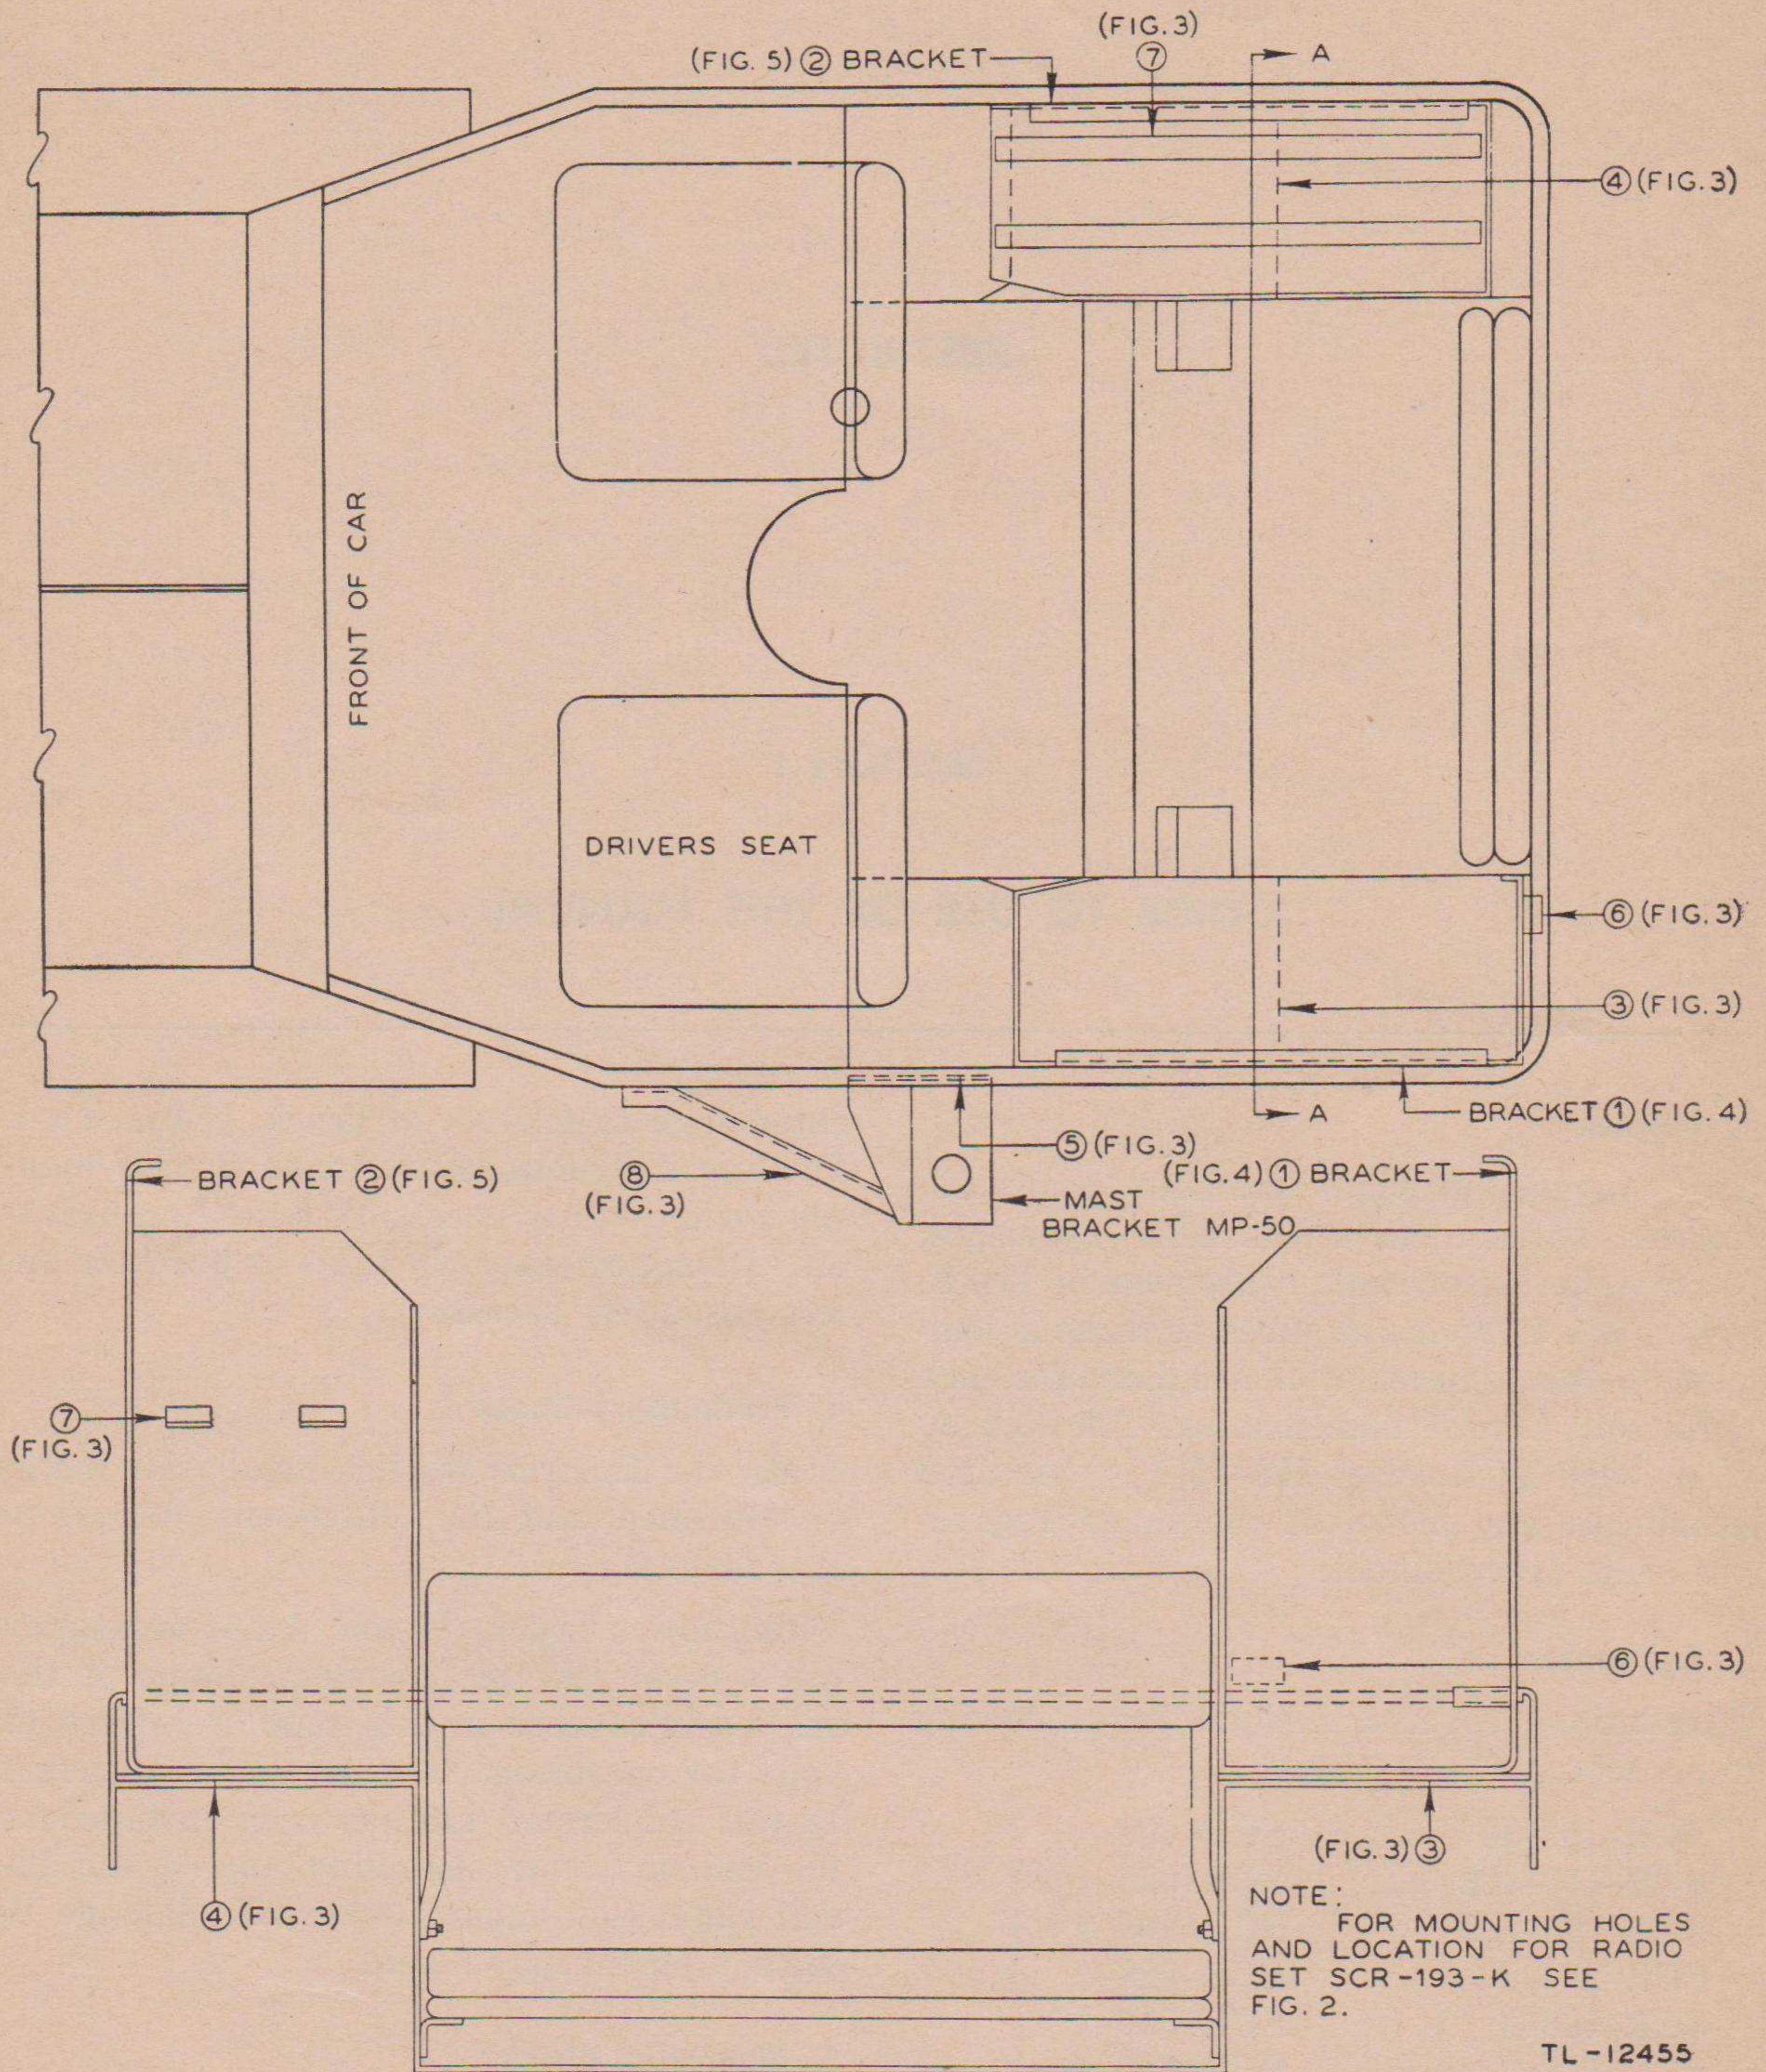

Figure 1. Installation of brackets for Radio Set SCR-193-K in Truck, 1/4-ton, 4x4.
SCR-193-K SEE FIG. 1.
b. PROCEDURE. Components of the radio set should be installed as shown in figures 6 and 12 and as directed below. Figure 2 shows mounting holes and location for the equipment. Figure 1 shows the installation of the brackets for the radio sets. Bracket details are shown in figures 3, 4, and 5.
Refer to figures 2 and 12. If the holes for the brackets have not already been drilled, drill them as shown in view D-D, figure 12. Fasten the brackets on the outside, and the reinforcing plate for the mast base on the inside of the vehicle, as shown in figure 1, with the hardware provided.
If the holes for mounting the brackets have not already been drilled, drill them as shown in plan view, figure 12. Mount the bracket and reinforcing plate as shown in figure 1. Secure Mounting FT-151-() to the wheelwell with the hardware provided.
If the mounting holes have not already been drilled, drill them as shown in plan view, figure 12. Install the brackets and reinforcing plate as shown in figure 1. Fasten Mounting FT-162 to the wheelwell with the provided hardware.